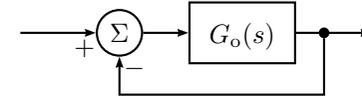

Figure 3.5a
- Draw a root locus with respect to  $K$  for the system in Figure 3.5a, with  $G_o(s)$  given below. For which values of  $K$  are the systems stable? What conclusions on the principal shape of the step response can be drawn from the root locus?